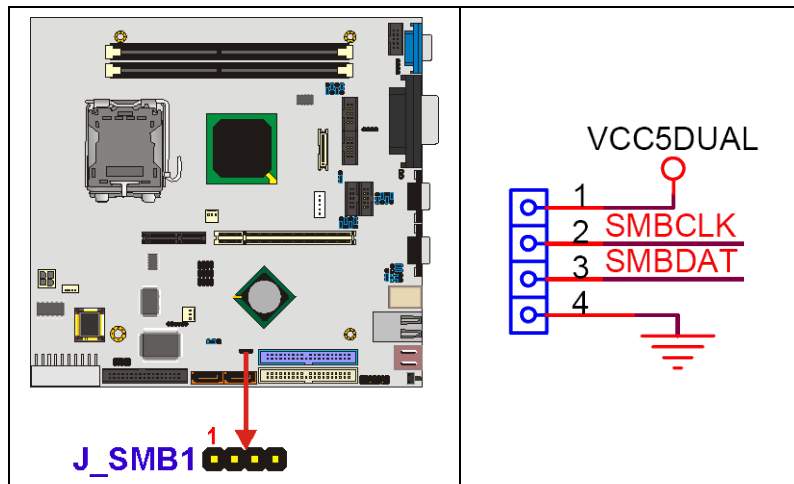

Figure 3-20 SMBus Connector Locations
- CN Location:** See Figure 3-20